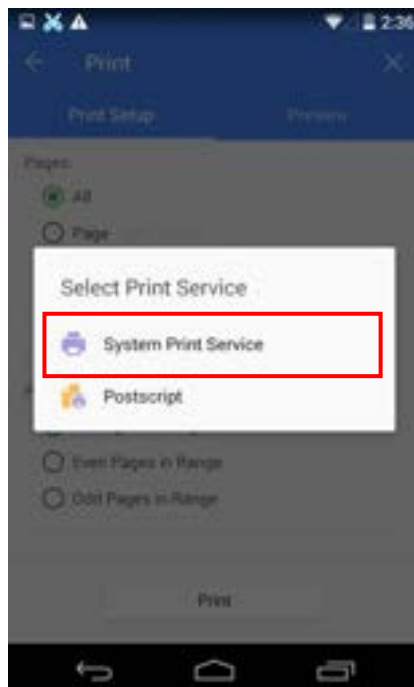

Figure 29
4.5 When the “Select Print Service” interface pops up, select “System Print Service”, as shown in Figure 29;